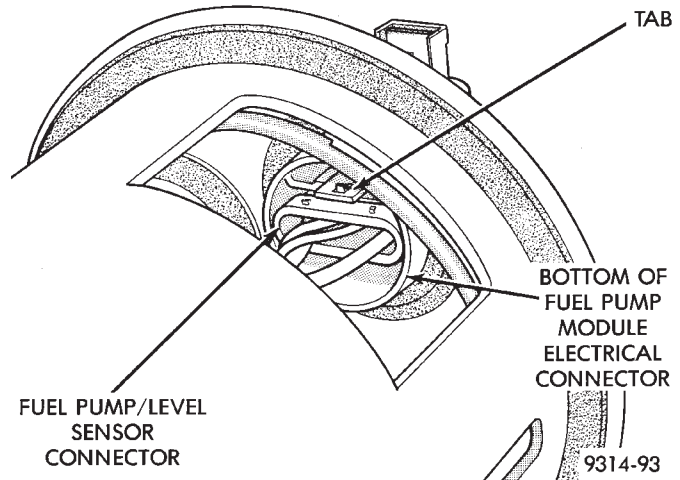

Fig. 14 Fuel Pump/Level Sensor Connector
- (1) Depress the retaining tab and remove the fuel pump/level sensor connector from the bottom of the fuel pump module electrical connector (Fig. 14).